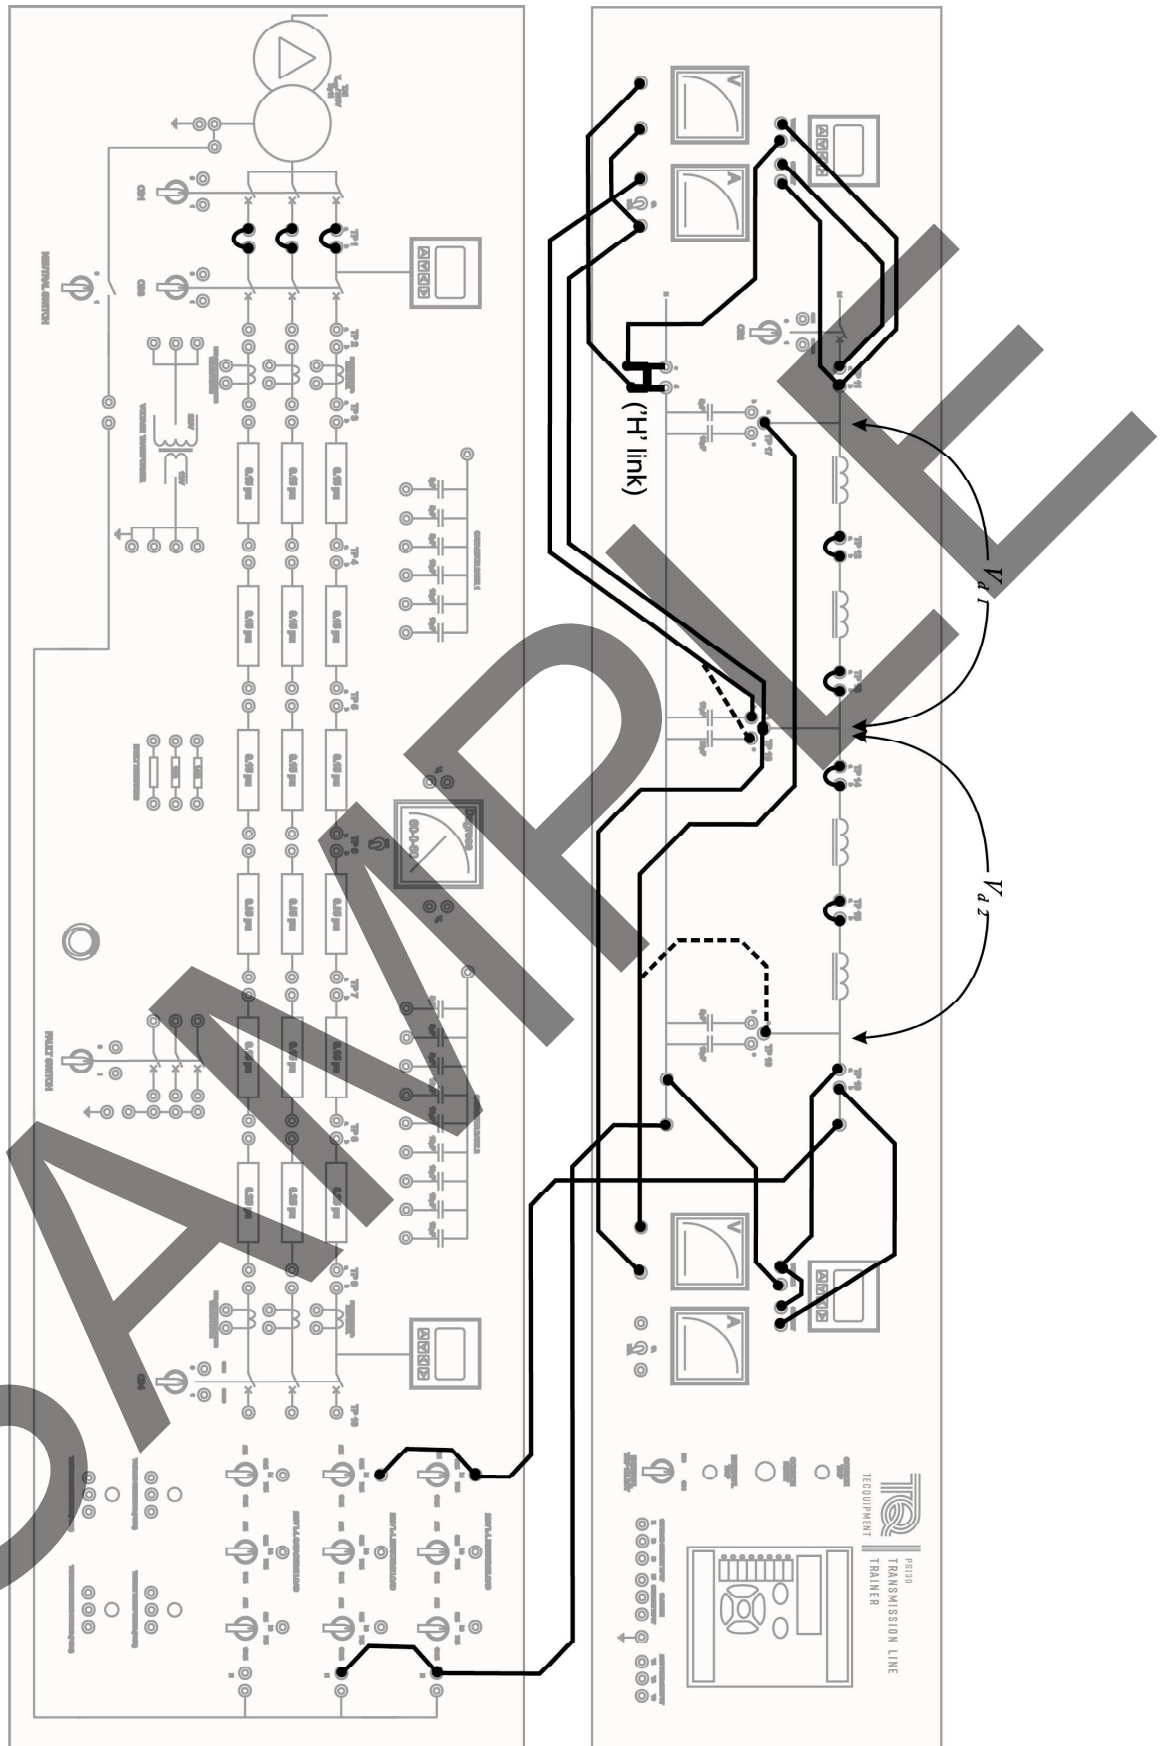

Figure 35 Connection Diagram For Experiment 2
- 2) Connect the circuit as shown in Figure 35 using all four inductors. Select a 100% resistive and 50% inductive load.
- 4) Use the right-hand analogue voltmeter to measure the voltage drop (V_{d1}) across the two inductances at the sending end, and the volt drop across the two inductances at receiving end (V_{d2}). In Figure 35, the right-hand dotted line shows which wire to move to make this connection. Use the multifunction meters to measure the sending and receiving end voltages, currents and power. You can also use these meters to show power factor, but for good practice, use equation 6 to calculate the power factor for each end of the line. The sending end voltage should remain fairly constant - determined by your local mains supply and cables.
- 7) Repeat procedure 1, but connect the 20 μ F (or 16 μ F for 60 Hz) line capacitor in place of the 10 μ F (or 8 μ F for 60 Hz). In Figure 35, the left-hand dotted line shows which wire to move to make this connection.